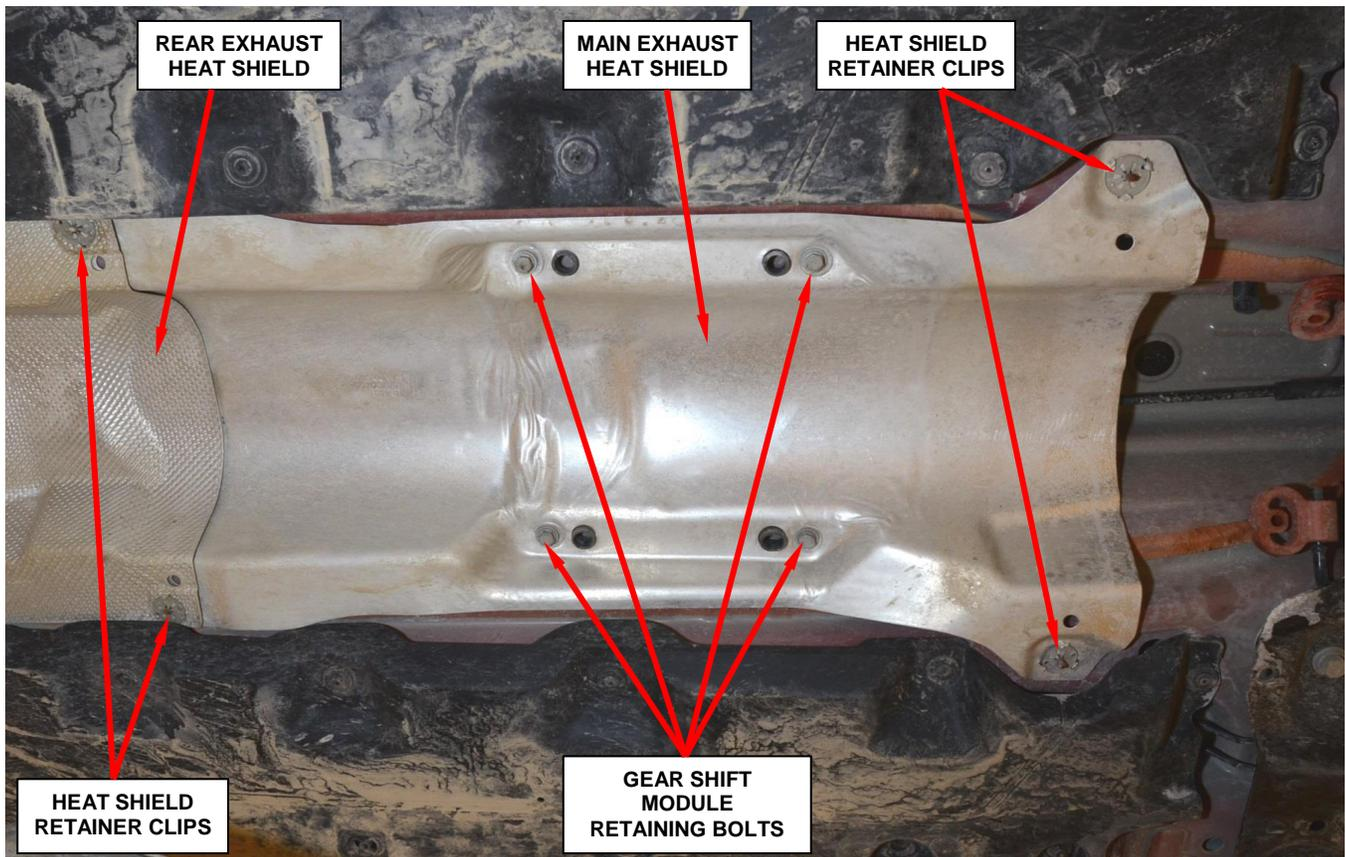

Figure 7 – Exhaust Heat Shields
18. Remove and save the main exhaust heat shield retaining clips (Figure 7).
19. Remove and save the four gear shift module retaining bolts (Figure 7).
20. Remove and save the main exhaust heat shield (Figure 7).